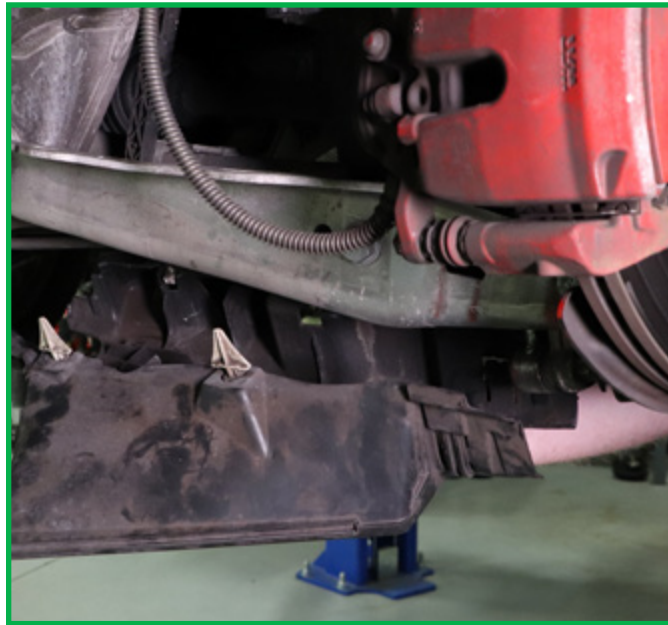

FIGURE 1
3. Remove cover from control arm. (Figure 1)